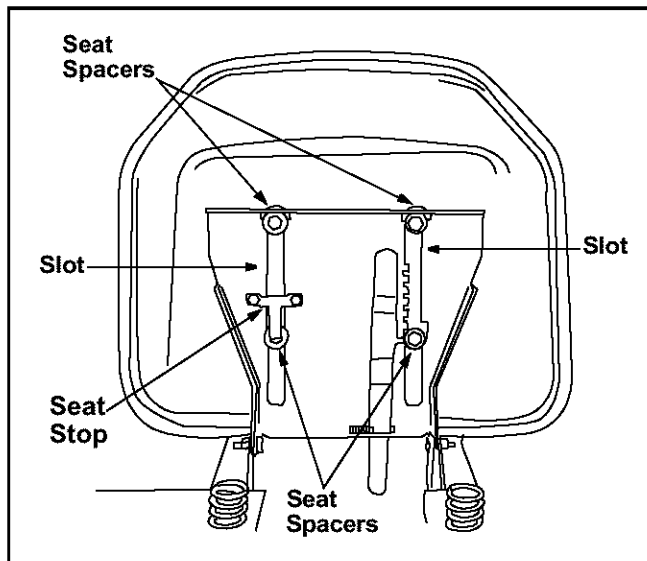

Figure 4
- Remove the two bolts from the bottom of the seat and remove the packing straps. Replace the bolts. Line up plastic seat spacers with the slots in seat pivot bracket. Slide seat in until front seat spacer engages the seat stop. To adjust the seat refer to the Adjustment Section. See Figure 4.